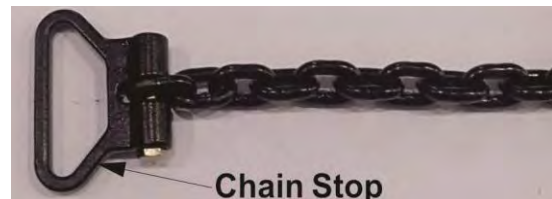

Figure 2
1. A Chain Stop #37 must be attached to the last link on the slack end of the chain. See Figure 2.